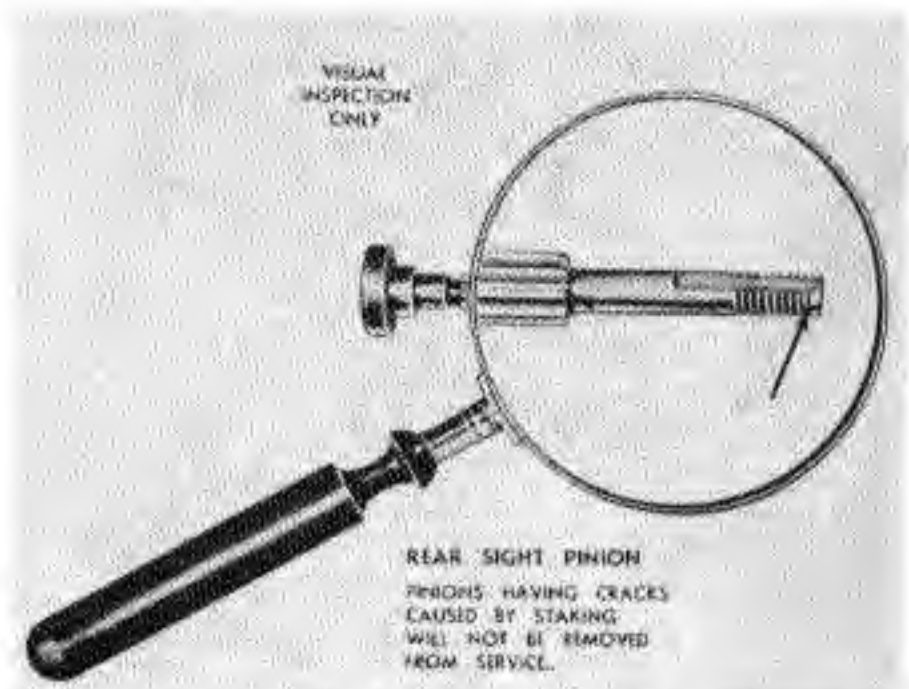

Fig. 124. Rear sight pinion - early manufacture.
50. Rear sight pinion (early manufacture). Inspect the pinions visually. Pinions having cracks caused by staking need not be removed, provided they do not interfere with functioning (Fig. 124).